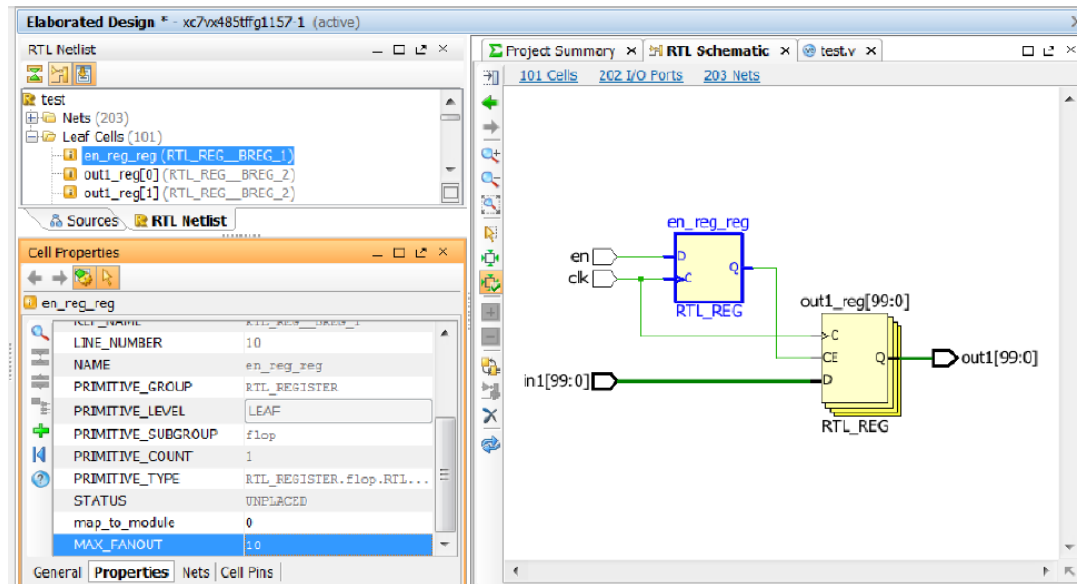

Figure 2-1: Adding an XDC Property from the Elaborated Design View
1. Open the elaborated design, shown in Figure 2-1, page 58, and select the item on which to place an attribute, using either of the following methods: